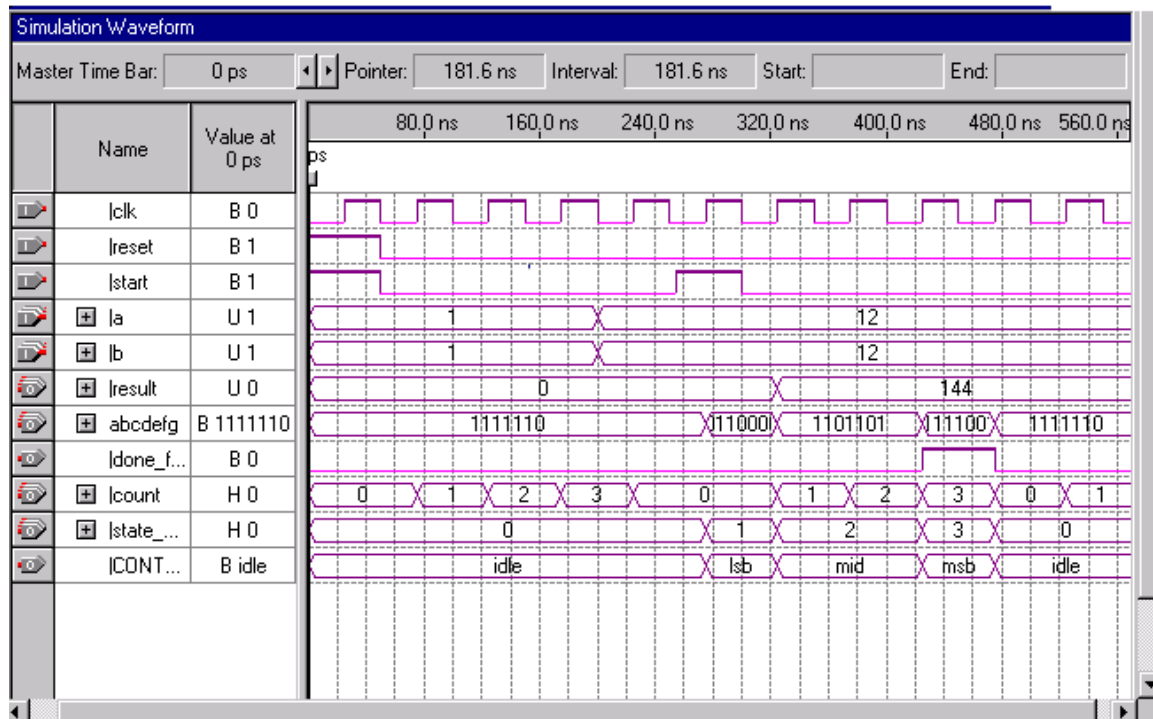

Figure 6-13.
- Check to see if you get the same results shown in Figure 6-13.